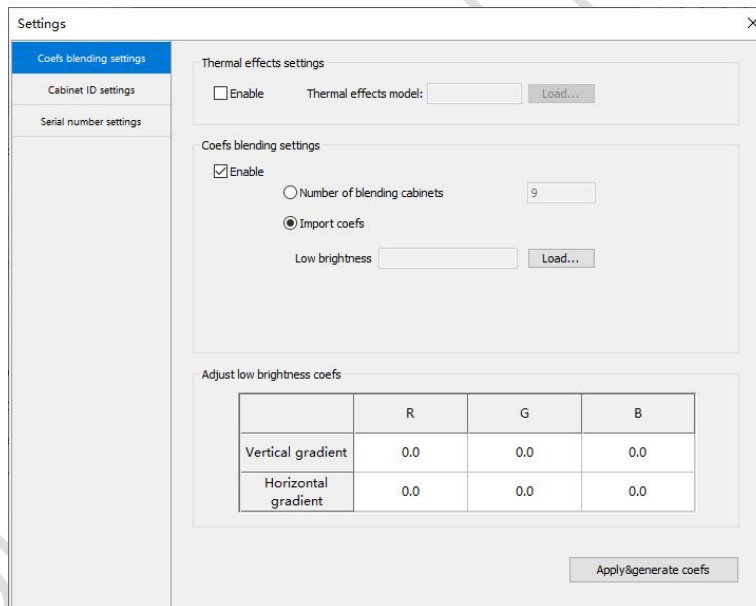

Fig.3-106 Coefficient blending settings in low brightness
- Low brightness calibration: Select **Coefs blending settings** to access the tab. See Figure 3-106.